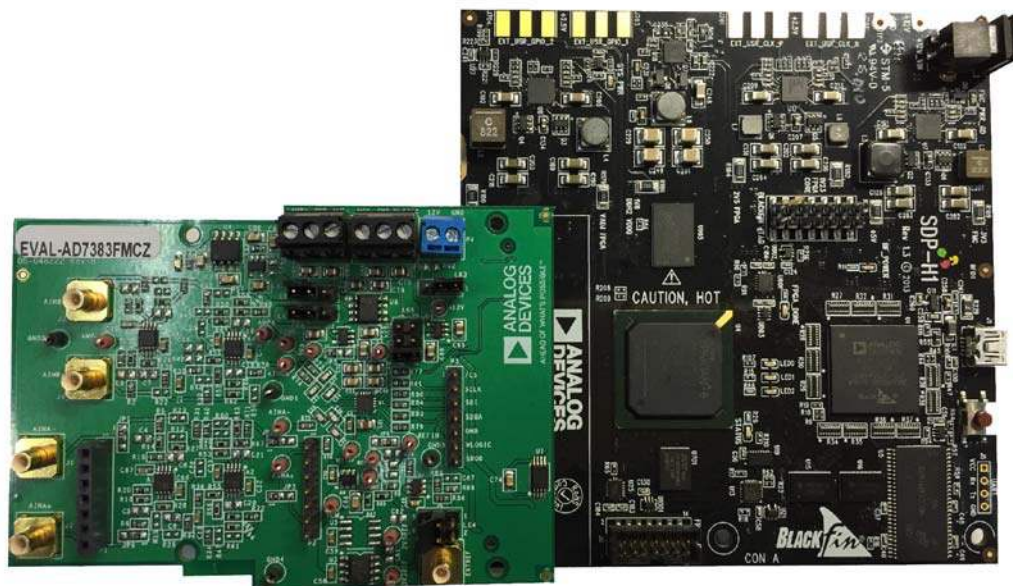

Figure 2. EVAL-AD7383FMCZ (Left) Connected to the SDP-H1 (Right)
3. Connect the SDP-H1 to the EVAL-AD7383FMCZ, as shown in Figure 2.
The EVAL-AD7383FMCZ connects to the **SDP-H1**. The SDP-H1 is the communication link between the PC and the EVAL-AD7383FMCZ. Figure 2 shows a diagram of the connections between the EVAL-AD7383FMCZ and the SDP-H1.